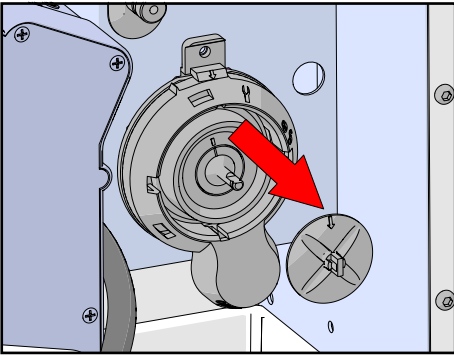

Figure 51.
7. Remove the mixer blade from the motor shaft (see Figure 51).